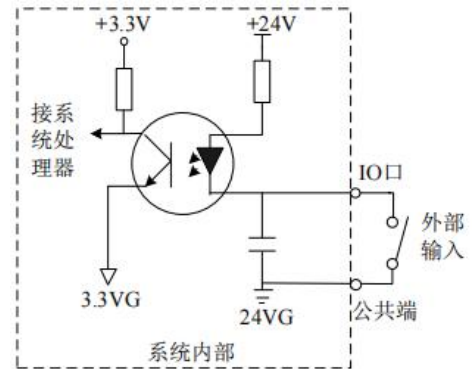

Figure 14.3 Schematic diagram of the input interface circuit
- ◆ The input port is photoelectric isolated input with low efficiency. The input signal can be mechanical contact switch, or photoelectric switch, support often open and closed input. The common end of the external switch is 24 VGND and the other end is connected to the corresponding input port. The schematic diagram of the input port internal circuit is shown in Figure 14.3.